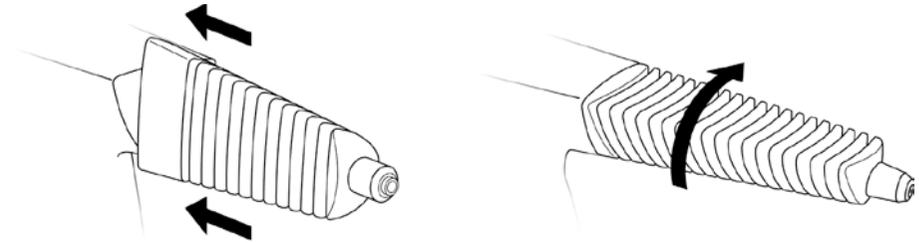

FIGURE 2
2. Slide Jet Nozzle onto Steam Nozzle - guide keys should fit into key slots. Push Jet Nozzle on as far as it will go. Rotate Jet Nozzle 90° clockwise, turning it until it will move no further (FIGURE 2).